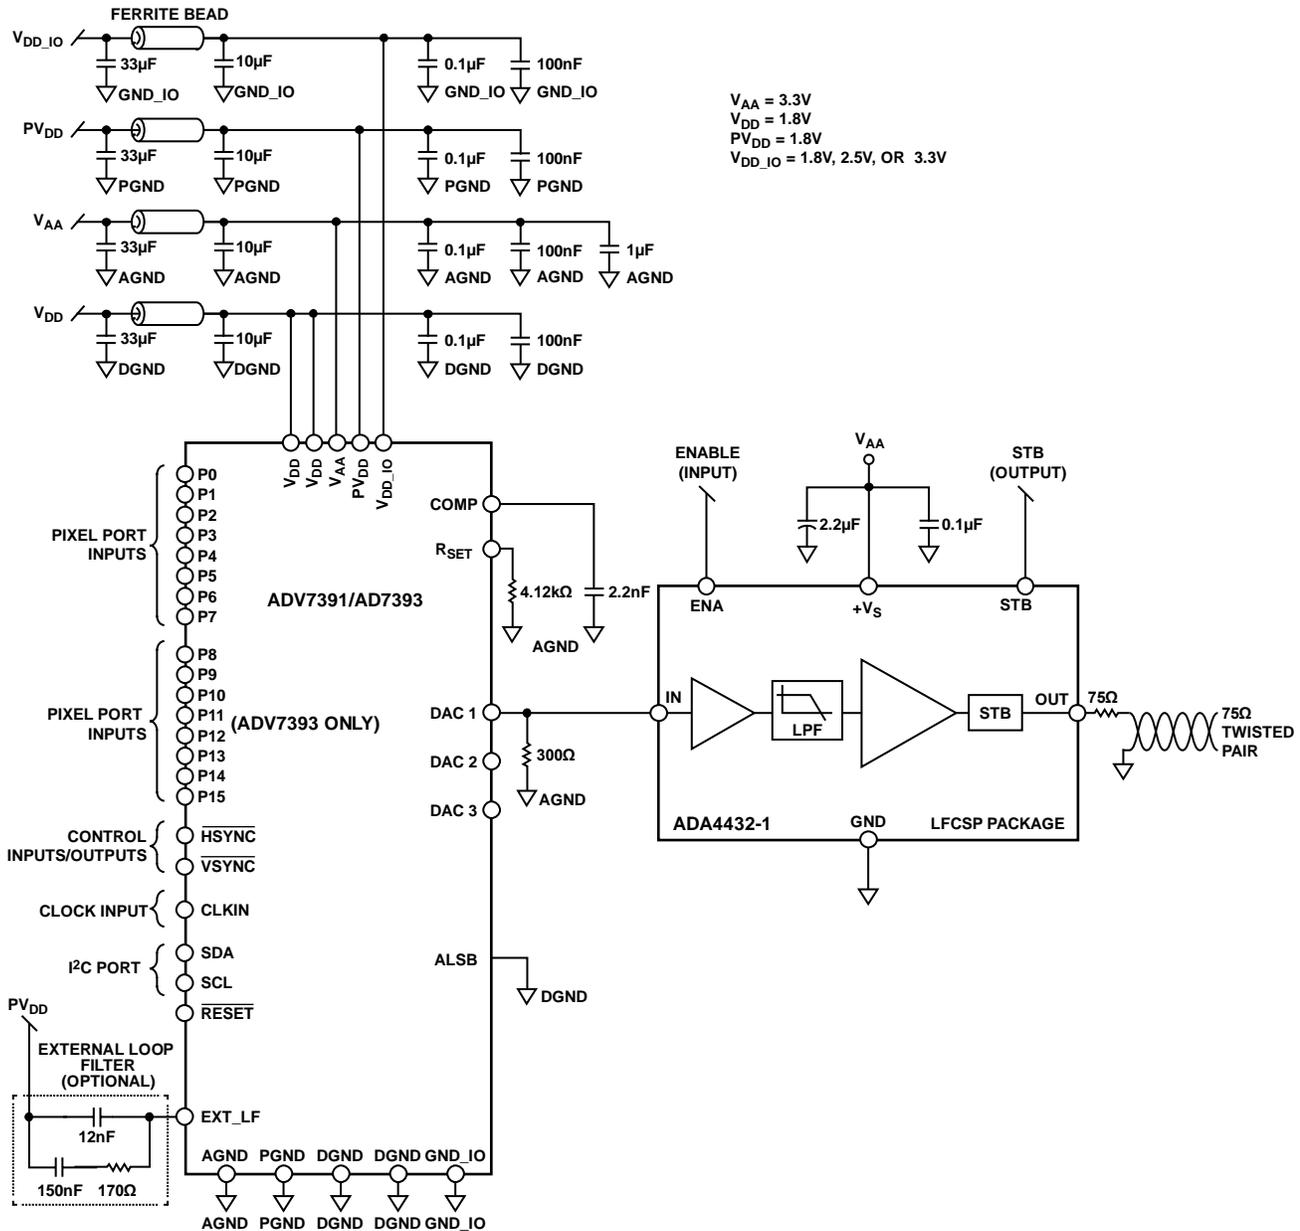

Figure 1. Low Cost, Fully Integrated Reconstruction Filter using the ADA4432-1 (All Connections and Decoupling Not Shown)
The circuit in Figure 1 shows a digital-to-analog video converter paired with a low cost, low power, fully integrated reconstruction video filter with output short-to-battery (STB) protection, ideal for CVBS video transmission in harsh infotainment environments such as automotive applications. Although many video encoders (video DACs), such as the ADV7391, can drive a video load directly, it is often beneficial to use a video driver at the output of a video encoder for power savings, filtering, line driving, and overvoltage circuit protection. The main purpose of a video driver, typically configured as an active filter (also known as a reconstruction filter), is twofold: it blocks the higher frequency components (above the Nyquist frequency) that were introduced into the video signal as part of the sampling process, and it provides gain to drive the external 75 Ω cable to the video display.
The ADV7391 is a low power, fully integrated digital video encoder that converts digital 8-bit component video data from a CMOS imager into a standard analog baseband video signal compatible with worldwide standards. Three, 10-bit digital-to-analog video converters (operating on $V_{AA} = 2.6\text{ V to }3.46\text{ V}$) provide support for composite (CVBS), S-video (YC), or component (YPrPb/RGB) analog outputs in either standard definition (SD) or high definition (HD) video formats. The circuit in Figure 1 is configured for low output drive through DAC1 only. To conserve more power, the other DACs and phase-locked loop (PLL) are turned off. Low drive mode is defined as 4.33 mA full-scale output current. The ADV7391 contains an R_{SET} pin. A resistor connected between the R_{SET} pin and AGND is used to control the full-scale output current. For low drive operation, R_{SET} must equal 4.12 kΩ, and R_L must equal 300 Ω. The resistor connected to the R_{SET} pin must have a 1% tolerance.
The **ADV7391** includes an on-chip, PLL that allows for over-sampling video data. As shown in Figure 1, the PLL is disabled (Subaddress 0x00, Bit 1 = 1) providing an SD oversample rate of 2x. With the PLL disabled, the external loop filter components are removed to save space and cost.
In Figure 1, the **ADA4432-1** is configured as a single-ended-to-single-ended driver that allows unbalanced transmission using twisted pair cable, untwisted cable, or coaxial cable.
See Figure 1 of this circuit note for the circuit block diagram and the EVAL-CN0264-EB1Z-SCH.pdf file for the circuit schematics. This file is contained in the CN0264 Design Support Package.